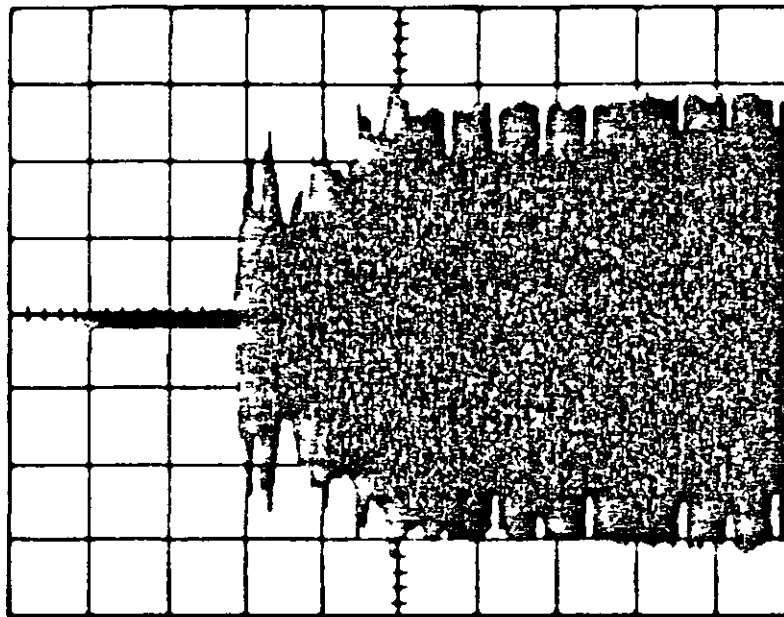

Figure 2-16. Head load Actuator Timing Check Waveform
- e. Check that two pulses are present as shown in the Figure 2-16. The amplitude of the pulses should be approximately 1.0 volts. If the two pulses are not correct, proceed to step f and attempt to obtain the correct signal. If it is correct, the procedure is complete